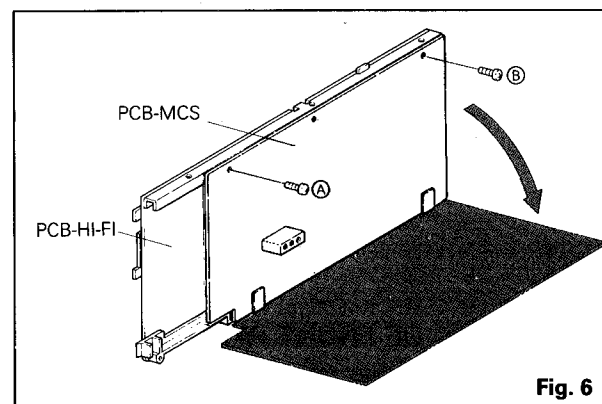

Fig. 6
- Remove the two screws (A and B) retaining the PCB MCS as shown in Fig. 6.